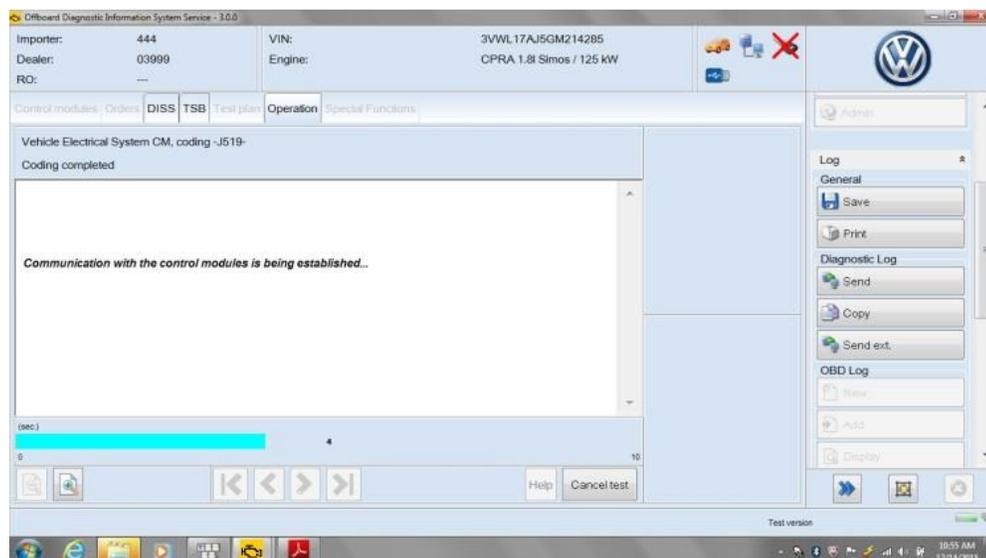

Figure 13
- Next Communication with the control modules is being established. (Figure 13)